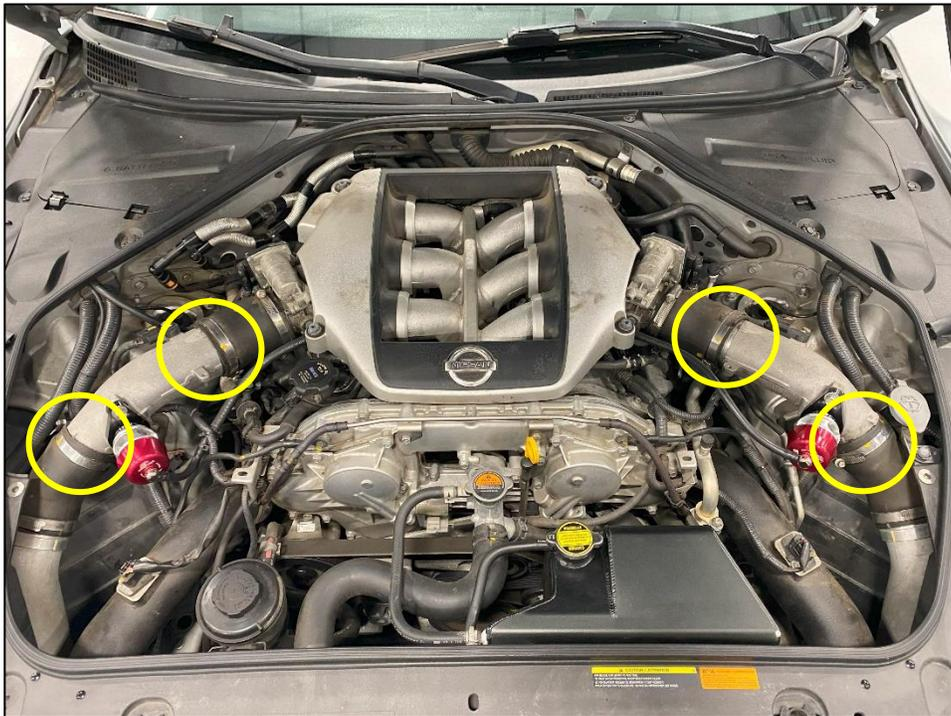

Figure 4
6. Loosen the (2) two clamps on each side securing the Intake Pipe to the Intake Couplers, circled below. *Figure 4.*